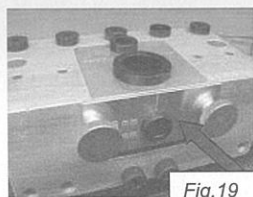

Fig. 19
- 9.2. Secure the drill guide by screwing one of the vertical drill guides onto the jig body (fig. 19).